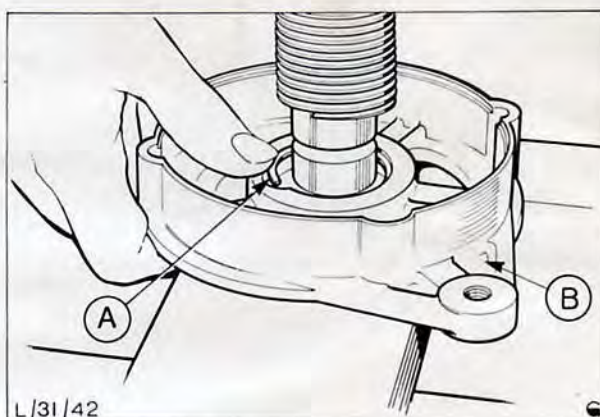

Fig. 54. Installing the drive end bearing retaining circlip
21. Position housing under a press and apply light pressure to rear face of the bearing, Fig. 54. This will facilitate installing circlip by fully exposing circlip groove while holding housing firmly.